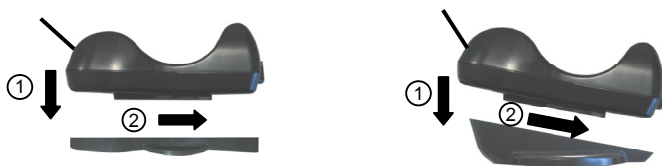

Figure 5 -Base Desktop Mounting
3. Position the cradle onto the base by sliding it along the mounting tabs until aligned (see Figure 5).
1. Position the cradle onto the base by sliding it along the mounting tabs until aligned (see Figure 5).
3. Position the OM-30X0 onto the base by sliding it along the mounting tabs (see Figure 5) until aligned.